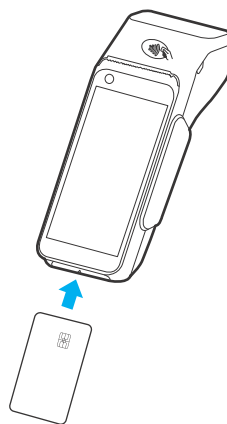

Figure 11 Inserting a Smart Card
- 1 Position the smart card with the contacts facing upward (see Figure 11).